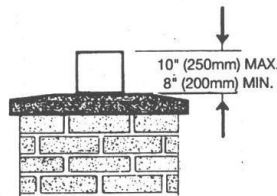

FIGURE 4
6. The liner should extend outside the top of the chimney between 8" (200mm) minimum and 10" (250mm) maximum (see figure 4).